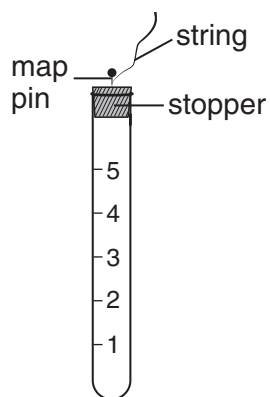

Fig. 2.1
- Set-up of the test-tube as shown in Fig. 2.1.